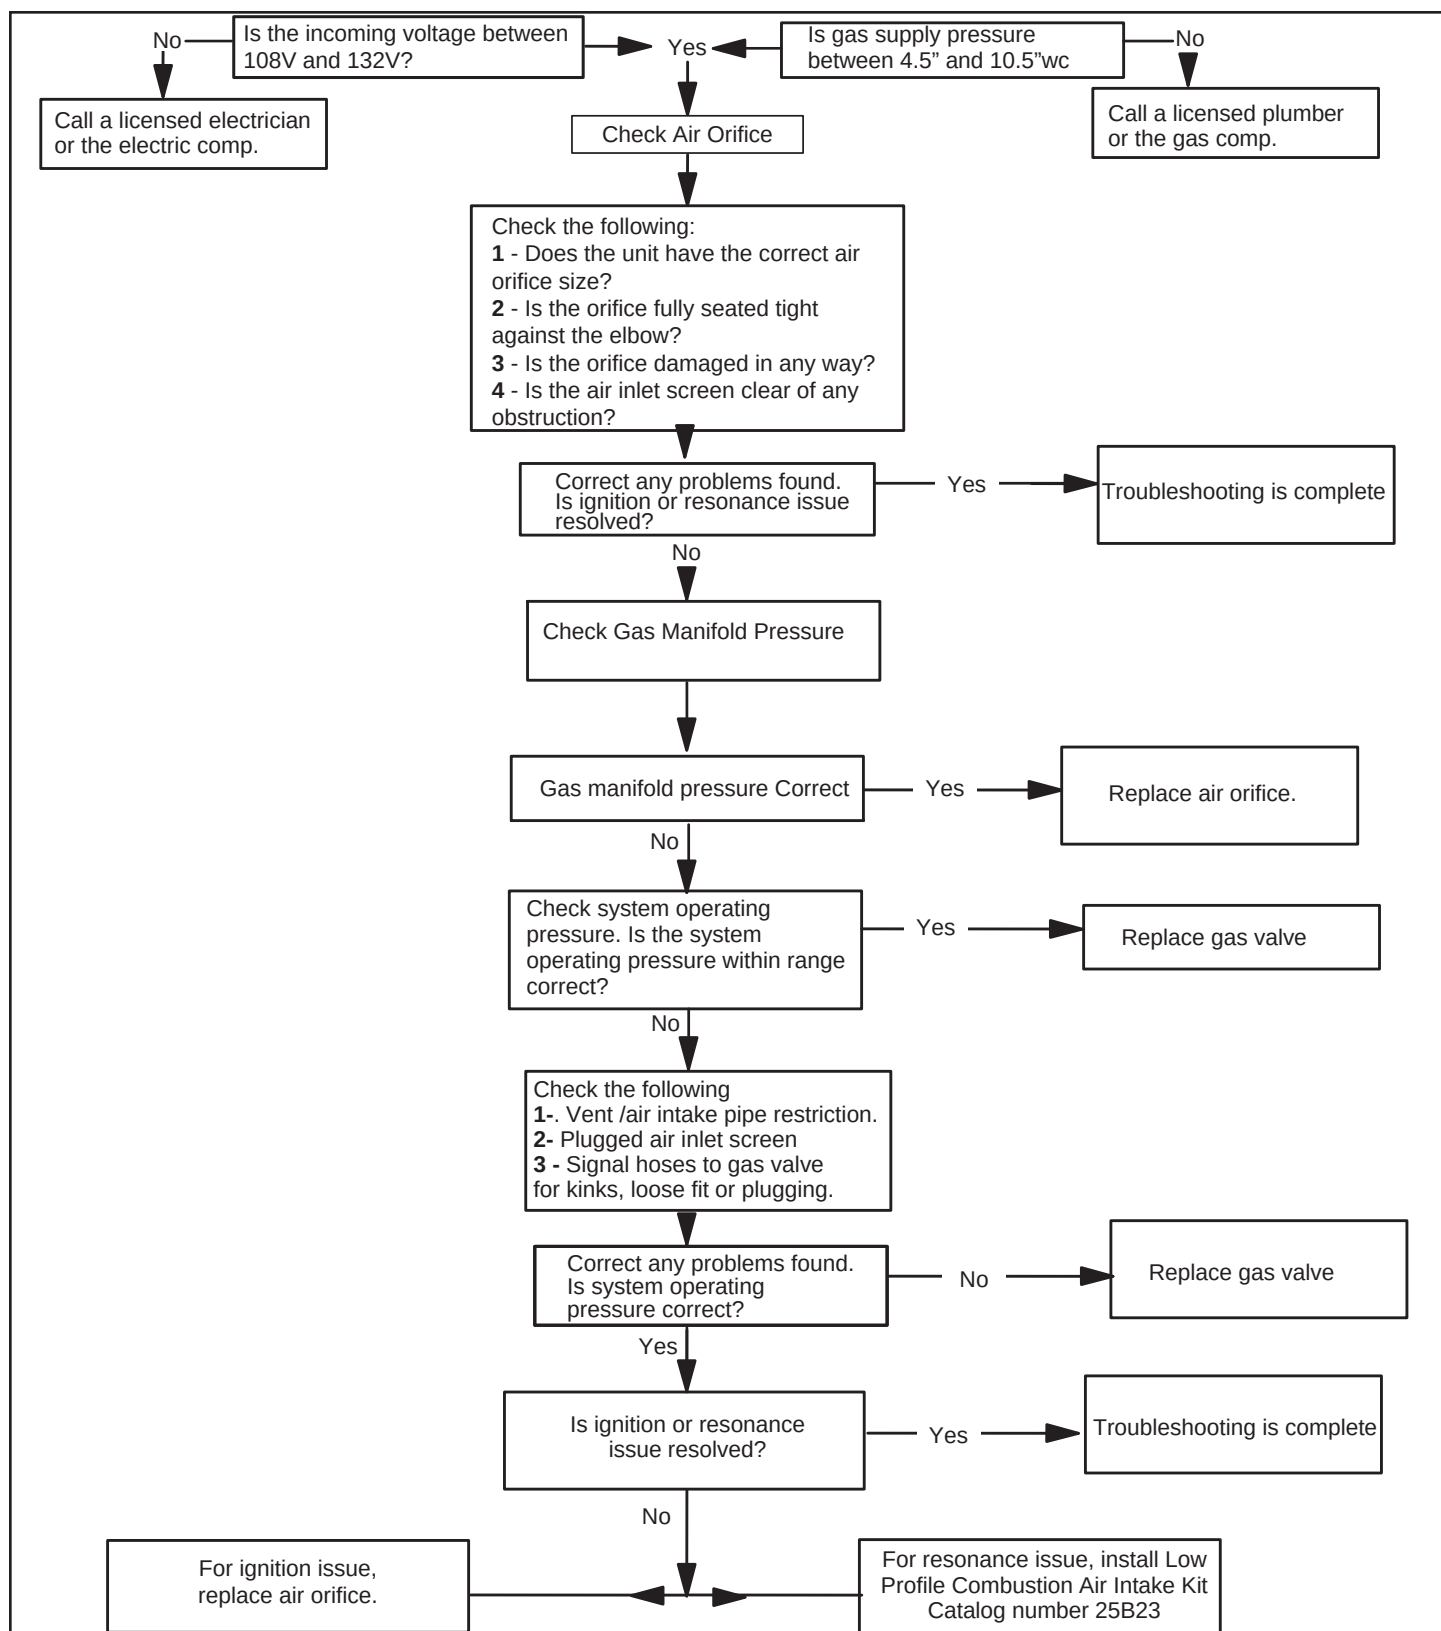

Figure 23. Troubleshooting Poor Ignition or Combustion Resonance Issues
7. Record system operating pressure and compare to value in **Table 22**. If system operating pressure is within range replace valve. If the system operating pressure is not within range go to “Troubleshooting” **Figure 23**.
- If the unit has difficulty igniting or ignites with loud resonance see “Air Orifice Replacement” and “Troubleshooting” **Figure 23**.